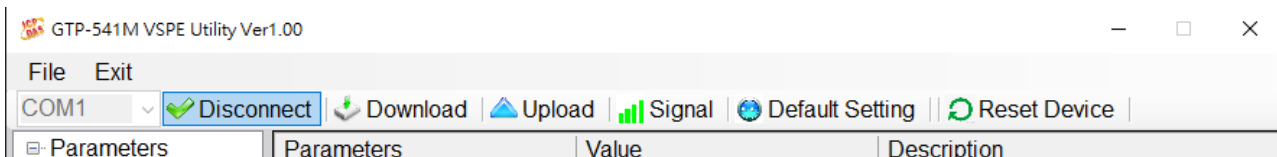

Figure 10.8.1.10
11. Click **System** to set the following parameters, as shown in Figure 10.8.1.11